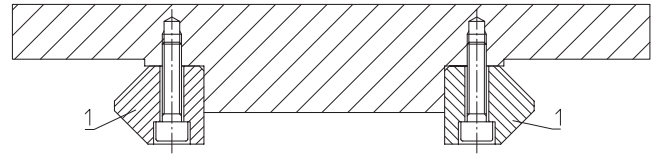
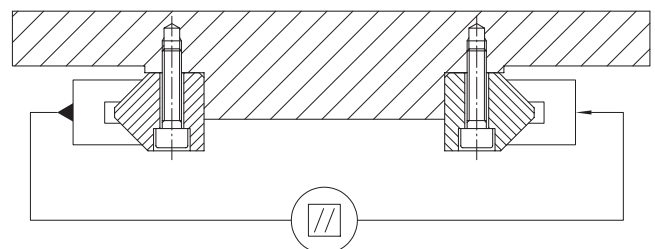

Figure 25. Assembly.
Figure 26. Parallelism verification
Assemble the guideway pair which does not require adjustment (1) (figure 25). Clamp the guideways against the rear locating face and check for parallelism before tightening the fixing screws (figure 26).